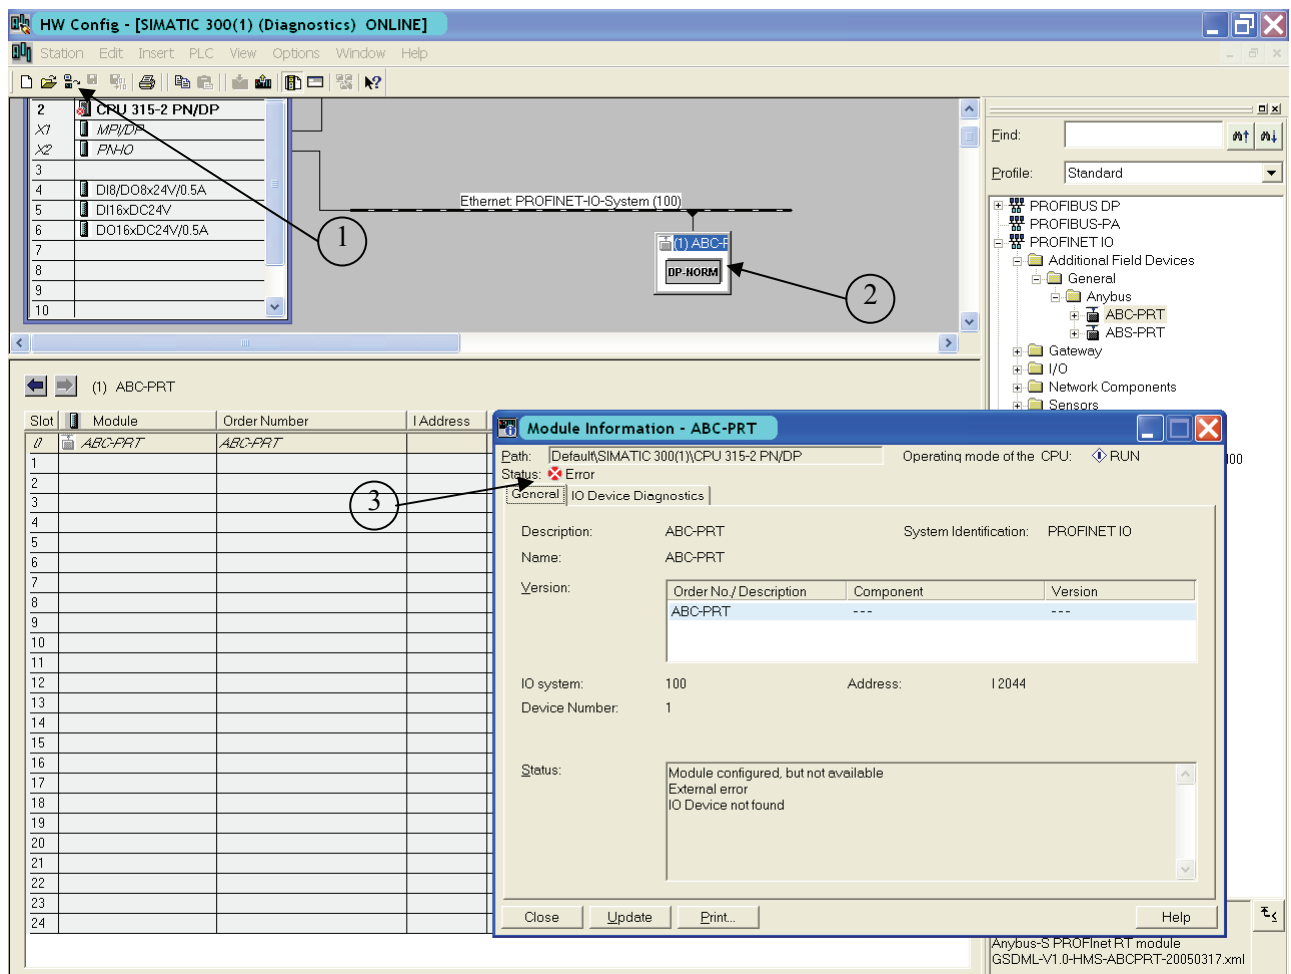

Figure 30 Step7 Hardware diagnostics.
Step7 and the HW Config program provide diagnostic possibilities via the PROFINET IO Controller over the network. Start with going online by clicking on the button ❶ in Figure 30. Then right-click on ❷ and chose “Module Information” and the diagnostic function will be started. The window ❸ will be displayed and available diagnostics can be read out.